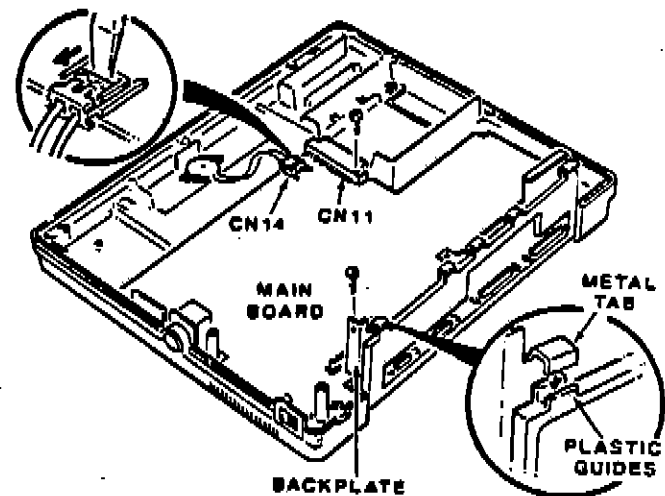

Figure 3-17. Removing the Main Board
Refer to Figure 3-17 for the following steps.
6. Remove the screw securing main board connector CN11 to the bottom cover, as shown in Figure 3-17. Set the screw aside.
7. Remove the screw that secures the computer metal backplate to the bottom cover, as shown in Figure 3-17. Set the screw aside.
During reassembly, make sure all tabs on the metal computer backplate fit into the slots of the plastic back, as shown in the inset of Figure 3-17.